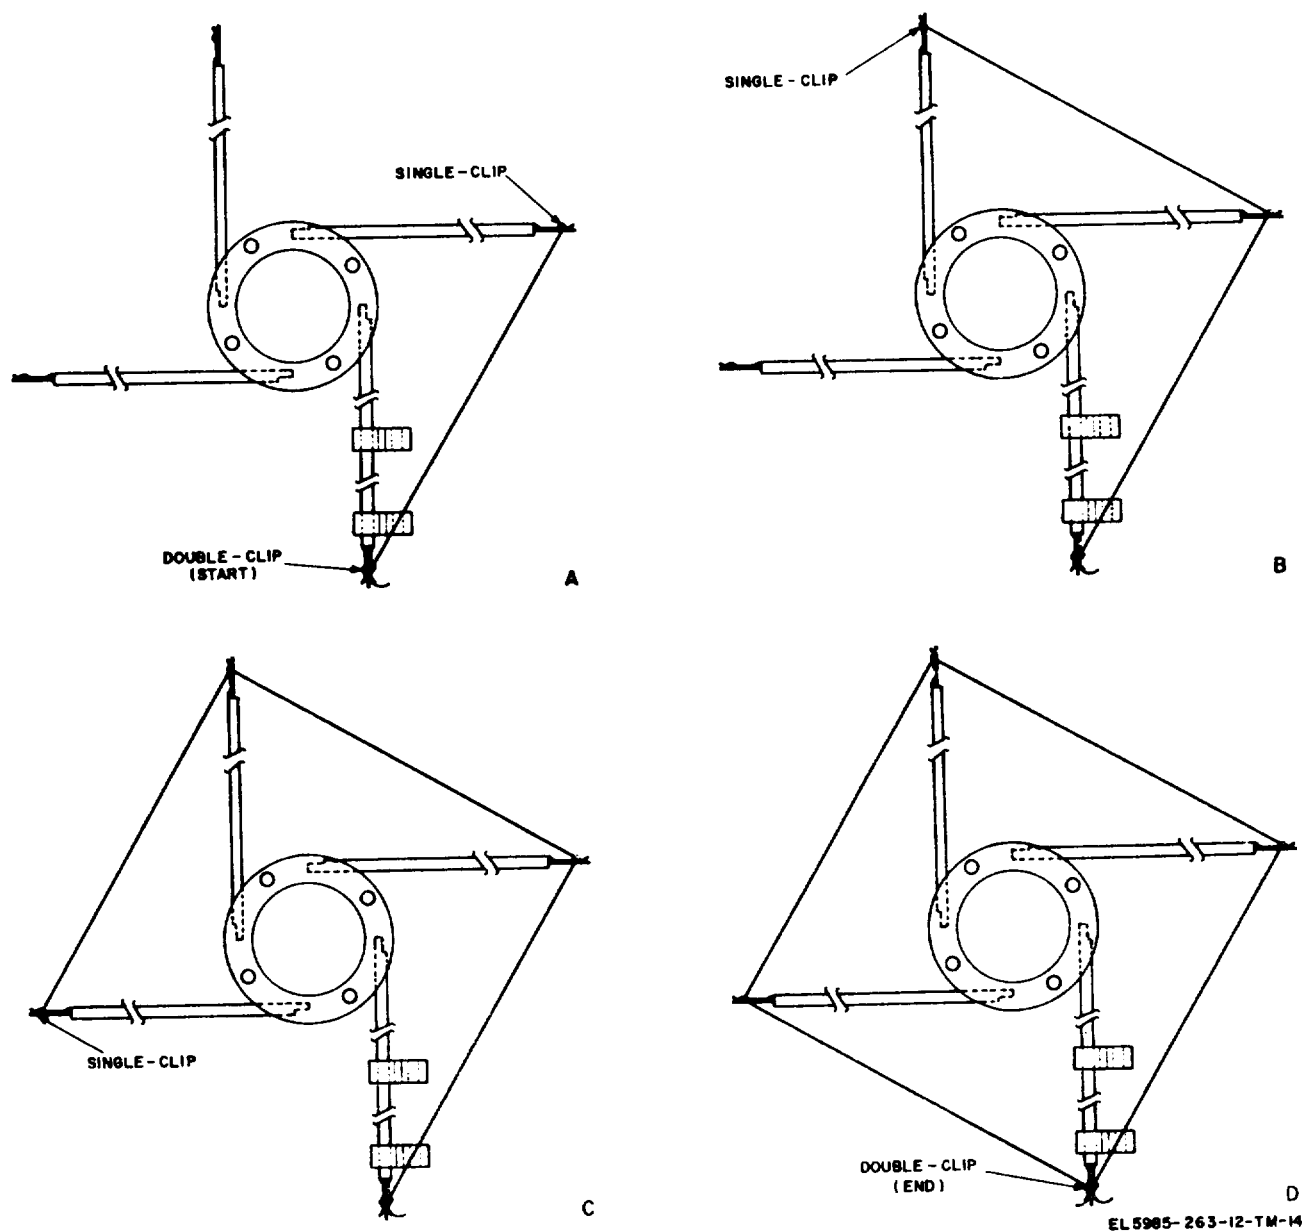
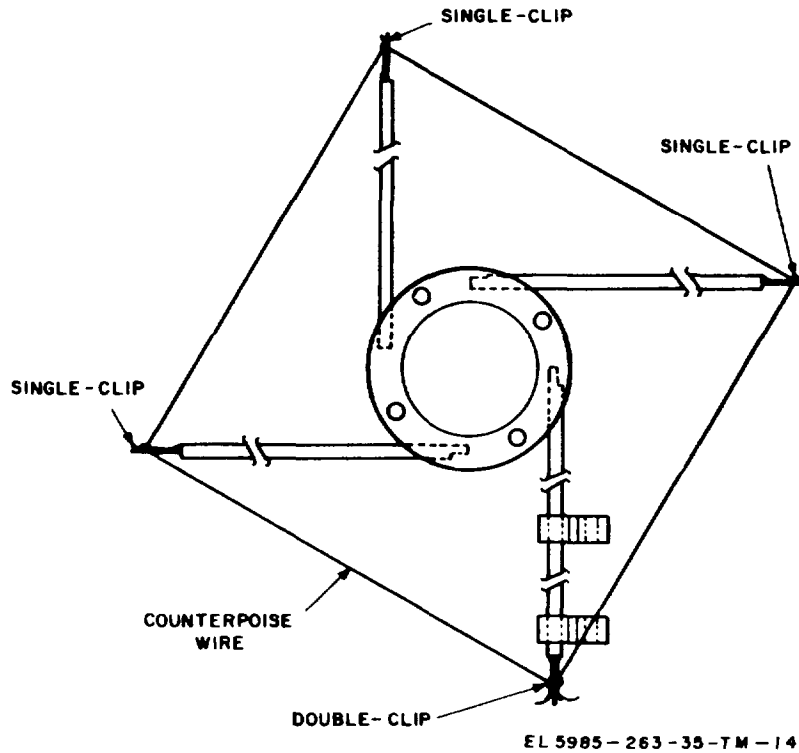

Figure 2-3. Counterpoise tubes and wires, assembly procedures.
Figure 2-4. Diagram of complete counterpoise assembly, top view.
(figs. 2-3 and 2-4)
c. Remove the counterpoise wire from the accessory bag. Insert the counterpoise cable into one clip of the tube that has a double clip (fig. 2-3). Run the cable to the nearest tube that has a single clip. Insert the cable into the single clip; make sure that the counterpoise wire is taut.
d. Continue looping the counterpoise wire around the single clips of the remaining sections (B, and C, fig. 2-3) until the cable terminates
at the double clip counterpoise tube (D, fig. 2-3). Refer to figure 2-4 for a diagram of the completed assembly. Place the counterpoise securing tape in the canvas bag for safekeeping.